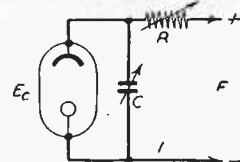

Fig. 5.—Glow discharge oscillator.
### Relaxation Oscillators (Fig. 5)
In a circuit in which the frequency is governed by the capacitance and resistance, and there is a swing from one state of quasi-equilibrium to another, the name of relaxation oscillator is given. As there is no inductance in the circuit, the type of oscillation produced differs considerably from a tuned circuit oscillator. The wave-form is generally non-sinusoidal, and there are harmonics of considerable amplitude. The frequency generated can be varied by the capacitance or resistance, between very wide limits. Fundamental frequencies can be as high as 1 Mc/s or as low as 1 cycle per minute. Fig. 5 shows a simple type of glow discharge oscillator. When a D.C. voltage of a magnitude greater than the striking voltage of the tube is applied, current will flow through  $R$  and the voltage across  $C$  will rise until the striking voltage is reached. The current through  $R$  then increases rapidly and the condenser discharges until the potential across it equals the extinction voltage of the tube. The condenser is now charged again until the striking voltage is again reached. The period of the tube flashes can be varied by adjustment of  $R$  and  $C$ . When  $C$  is large, flashes at a very low rate can be produced. The amplitude is comparatively small, but can be increased by a circuit tuned to the operating frequency inserted in the resistance arm.
**1,000 Volts A.C. Probe (Fig. 5)**